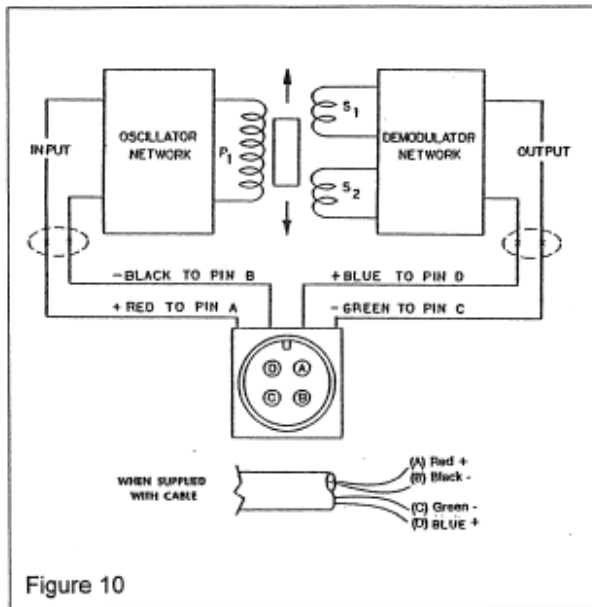

Figure 10
3. Observing correct polarity, connect the positive (+) input lead to Pin A and the negative (-) input lead to Pin B. (See Figure 10)
4. Connect the positive (+) output lead to Pin D and the negative (-) output lead to Pin C. (See Figure 10.)
7. Connect a voltmeter to Pins C and D (See Figure 10)